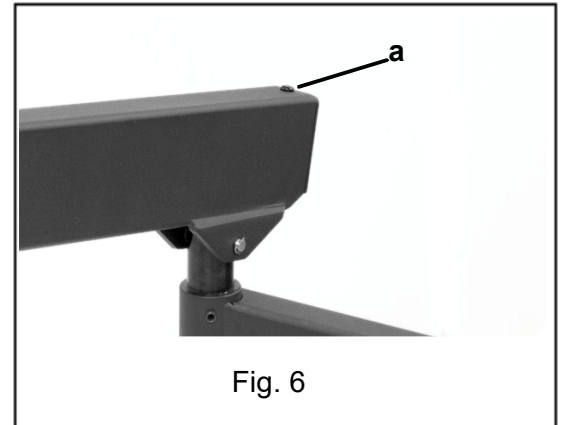

Fig. 6
1. Remove the socket screw **(a)** above the cover by using allen wrench 2.5mm as shown in Fig. 6.